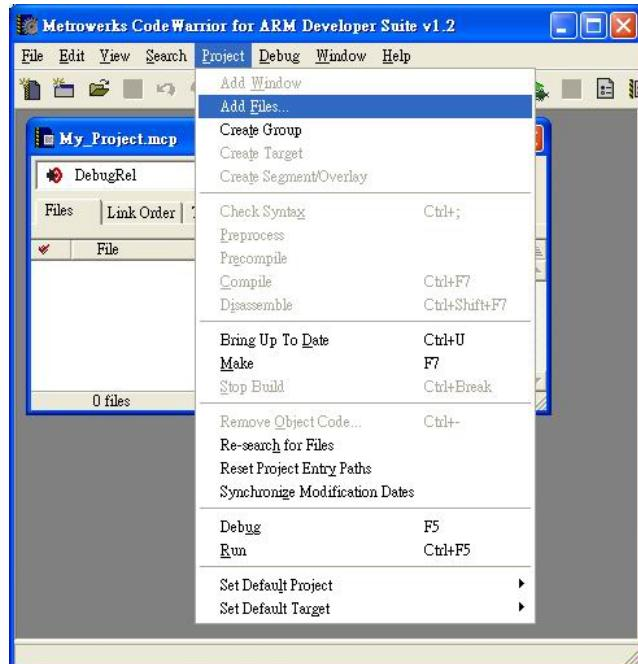
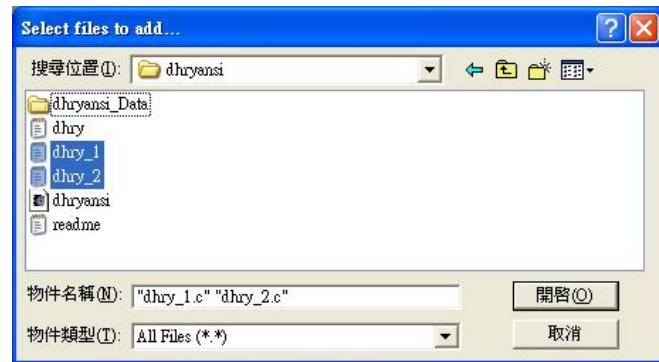

Figure 7. Add file.
Figure 8. Select files to add... dialog.
2. Select **Project → Add Files...** (Figure 7). A **Select files to add...** dialog is displayed. Navigate to the **dhryansi** directory in the **install\_directory\Examples** (e.g., C:\Program Files\ARM\ADSv1\_2\Examples\dhryansi\ directory and Shift-click on **dhry\_1.c** and **dhry\_2.c** to select them (Figure 8).